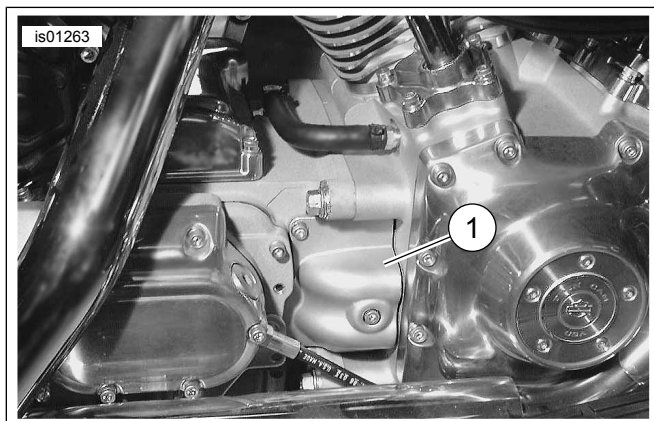

Figure 2. Dyna/FLHR Oil Line (Located Under Cover)
2. See Figure 2. Locate the oil supply (feed) hose. Remove the right side oil line cover (1) between the transmission and the engine case. The supply (feed) hose is the lower line into the engine case.